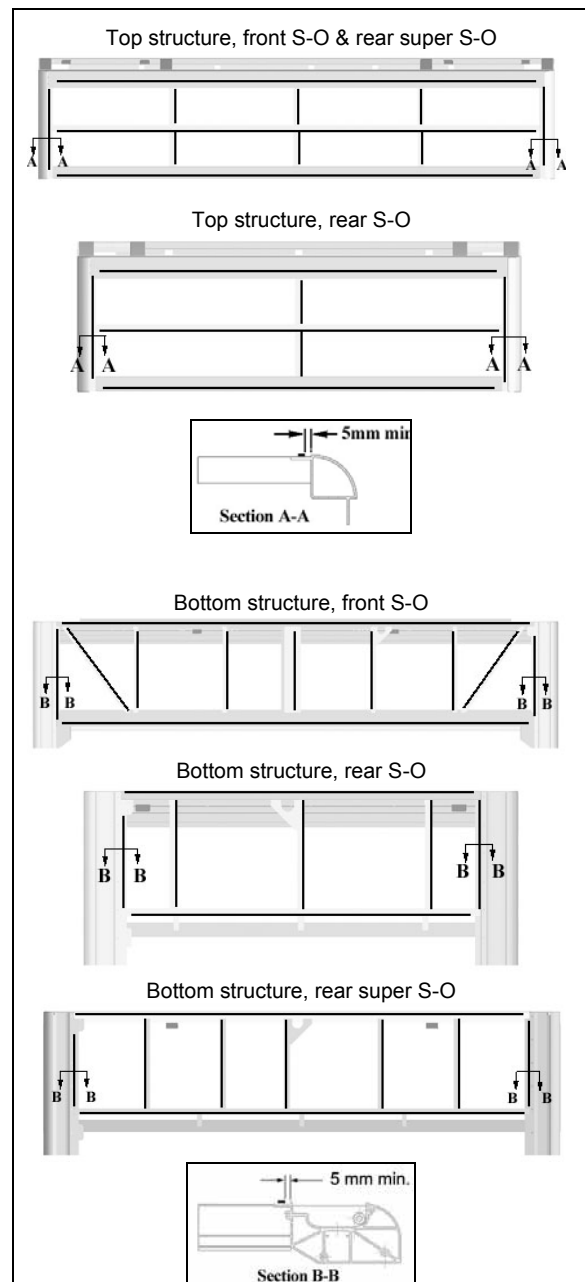

FIGURE 49 : TOP AND BOTTOM PANEL INSTALLATION - DOUBLE FACE ADHESIVE TAPE APPLICATION
2. Refer to FIGURE 49 for 1/16x1/4 double face adhesive tape location on structure [5mm≈6/32"];